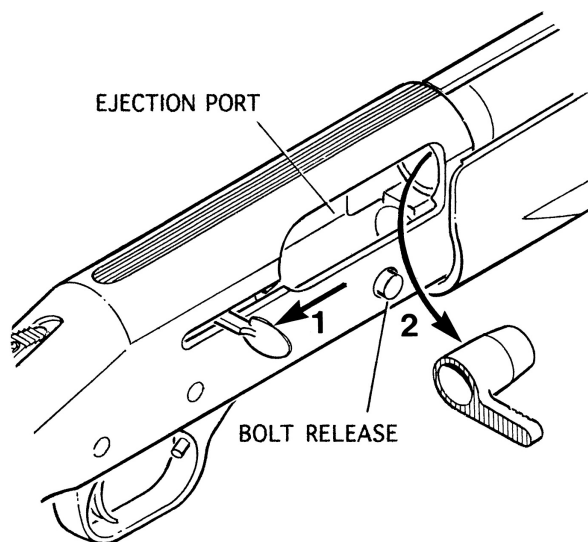

Figure 4
1. With the safety button fully rearward in the "ON" (SAFE) position, and the muzzle pointed in a safe direction, hold the firearm in your left hand by the forearm, and grasp the operating handle with your right hand. (Figure 4).
Keep fingers clear of the operating handle and the ejection port when closing the action. (Figure 4)
With the safety button fully rearward in the “ON” (SAFE) position, and the muzzle pointed in a safe direction, press the bolt release until the action releases (Figure 4).
3. While holding the elevator down with your thumb, press and release the bolt release (Figure 4). This will release one cartridge from the magazine tube under spring pressure.